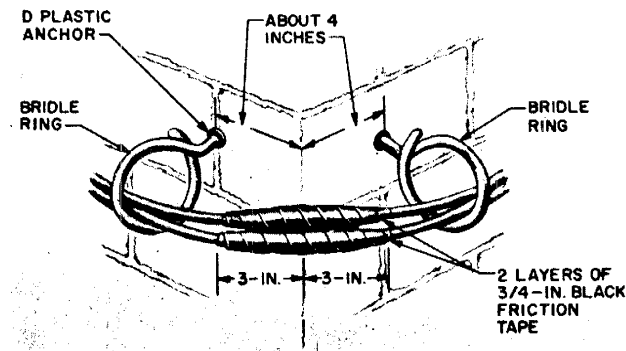

Fig. 1 — Bridle Ring
5.05 Fig. 1 through 9 illustrate spacing of typical wire runs using a variety of attachments.